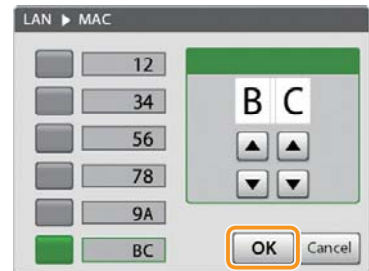

Figure 3-99
- Tap [OK] to complete the setting. (Figure 3-99)